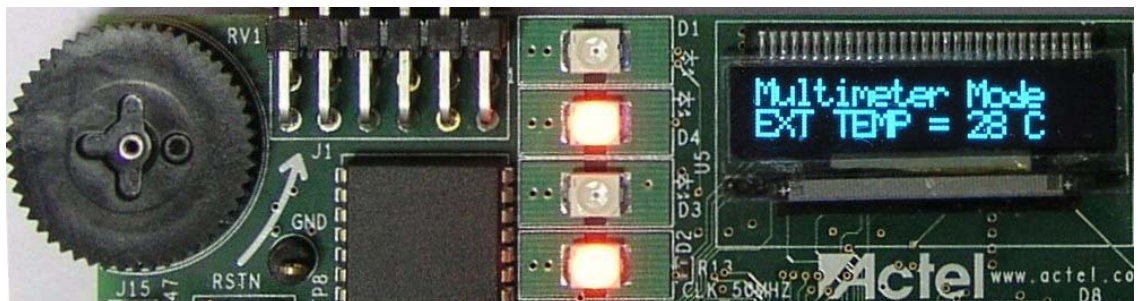
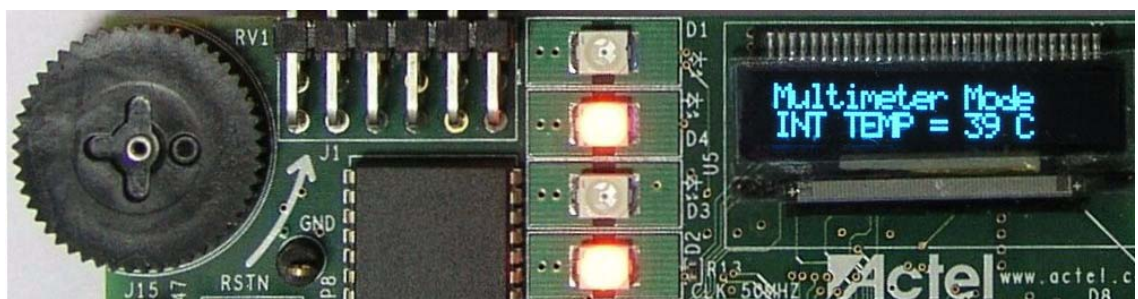

Figure 2-6 · Multimeter Mode – External Temperature Measurement
Figure 2-7 · Multimeter Mode – Internal Temperature Measurement
- Press SW3 again to see the external and internal temperature and examine the results on the OLED (Figure 2-6 and Figure 2-7).